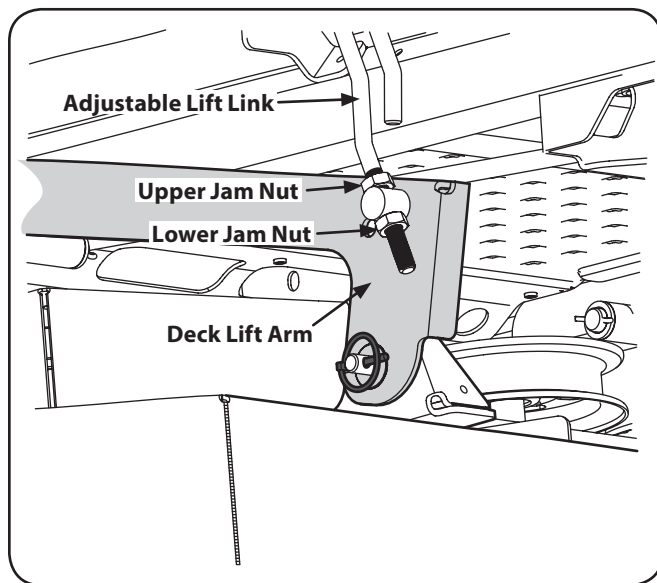

Figure 3-6
3. Loosen the lower jam nut on the adjustable lift link attached to the deck lift arm to lower the deck and tighten the upper jam nut to secure the deck in place, loosen the upper jam nut then tighten the lower jam nut to secure the deck in place. See Figure 3-6.